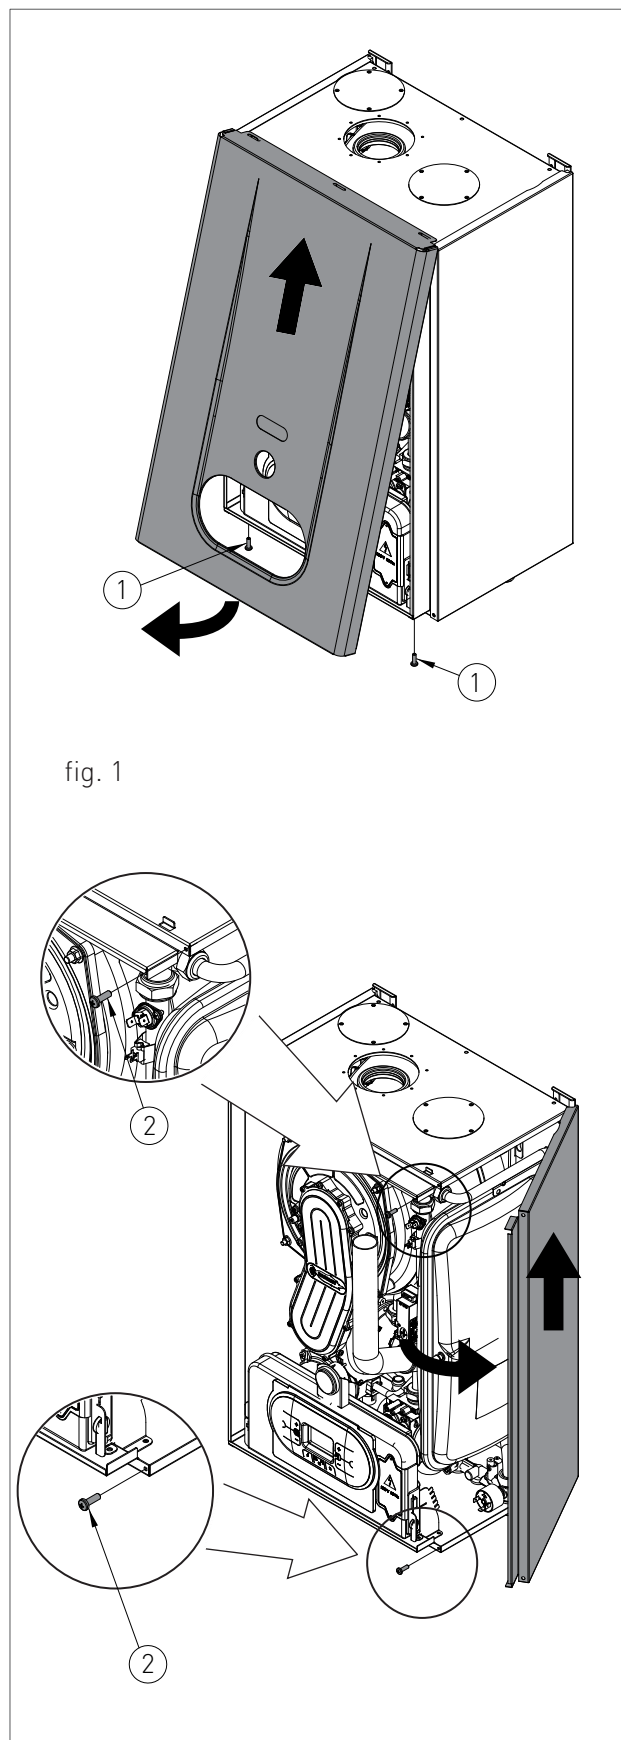

fig. 1
- › grab the front panel from the bottom and remove it pulling it to yourself and then upwards (see fig. 1).
- › remove the fastening screws (2 - fig.1) placed on the front edge of the side panel;
- › grab the bottom of the panel and remove it by moving it sideways and then pulling it upwards (see fig. 1).